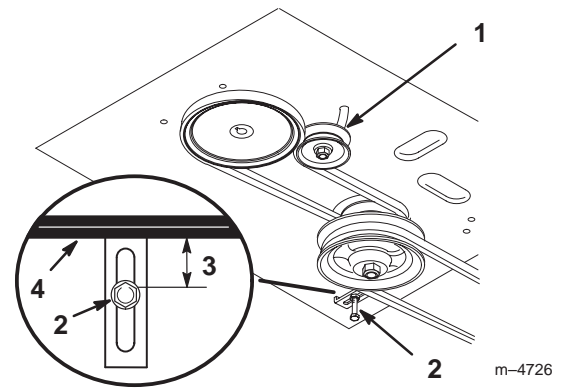

Figure 47
6. Install new belt around engine and drive pulleys (Fig. 47).
7. Slide idler pulley in engine frame to tension traction belt (Fig. 47).
9. Check the belt guide under the engine frame for proper adjustment (Fig. 47). The distance between the belt guide and mower belt should be 1-3/8 inch (35mm). Adjust as necessary. The disengaged belt should not drag or fall off pulley when guides are properly adjusted.
- Check the belt guide under the engine frame for proper adjustment (Fig. 47). The distance between the belt guide and mower belt should be 1-3/8 inch (35mm). Adjust as necessary. The disengaged belt should not drag or fall off pulley when guides are properly adjusted.